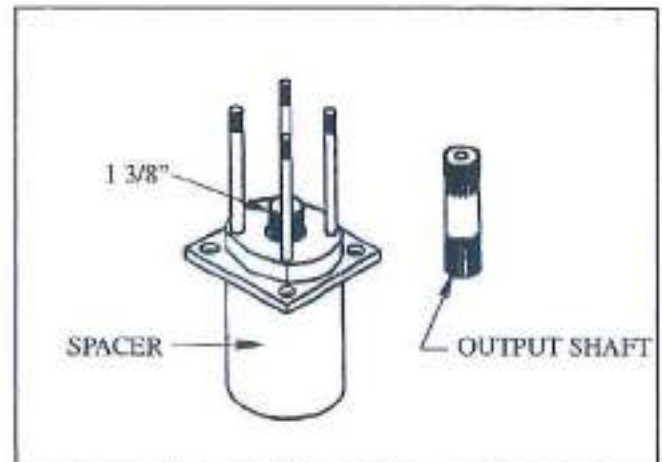

Figure 41
- Place the mounting plate assembly on a spacer as shown in Figure 41. Install the output shaft or "large dog bone" with the short spline up. Place shims under the shaft so that it extends approximately $1 \frac{3}{8}$ " above the wear plate.